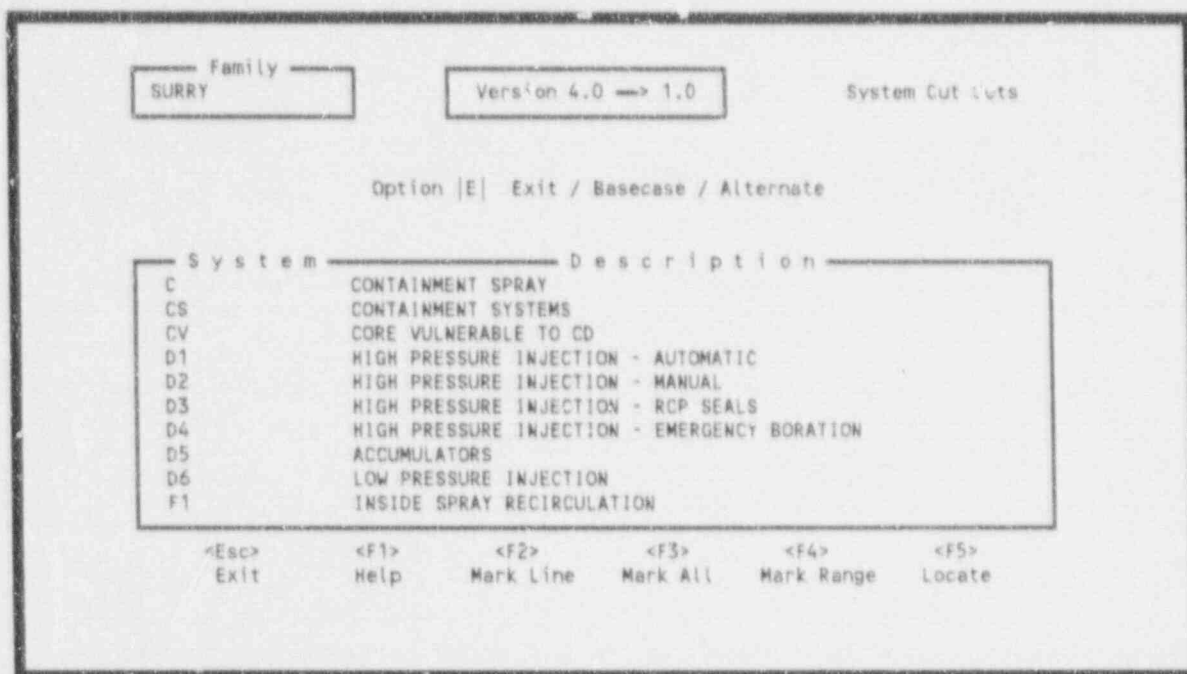

Figure 268. System selection screen.
11.5.3.3 Cut Sets. This option allows you to convert system cut sets generated by IRRAS Version 4.0 to Version 1.0 ".CUT" files. To invoke this option, type a <C> in the option field, or highlight "Cut Sets (FT)" and press <Enter> or <=>. Figure 268 will be displayed listing all the systems in the current family. On this screen, you have three options: Exit, Basecase, or Alternate.